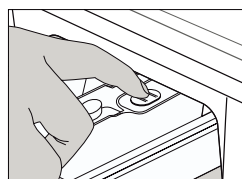

Fig. 16
- Press release lever on the inside of the drawer and pull it out. (Fig.16)